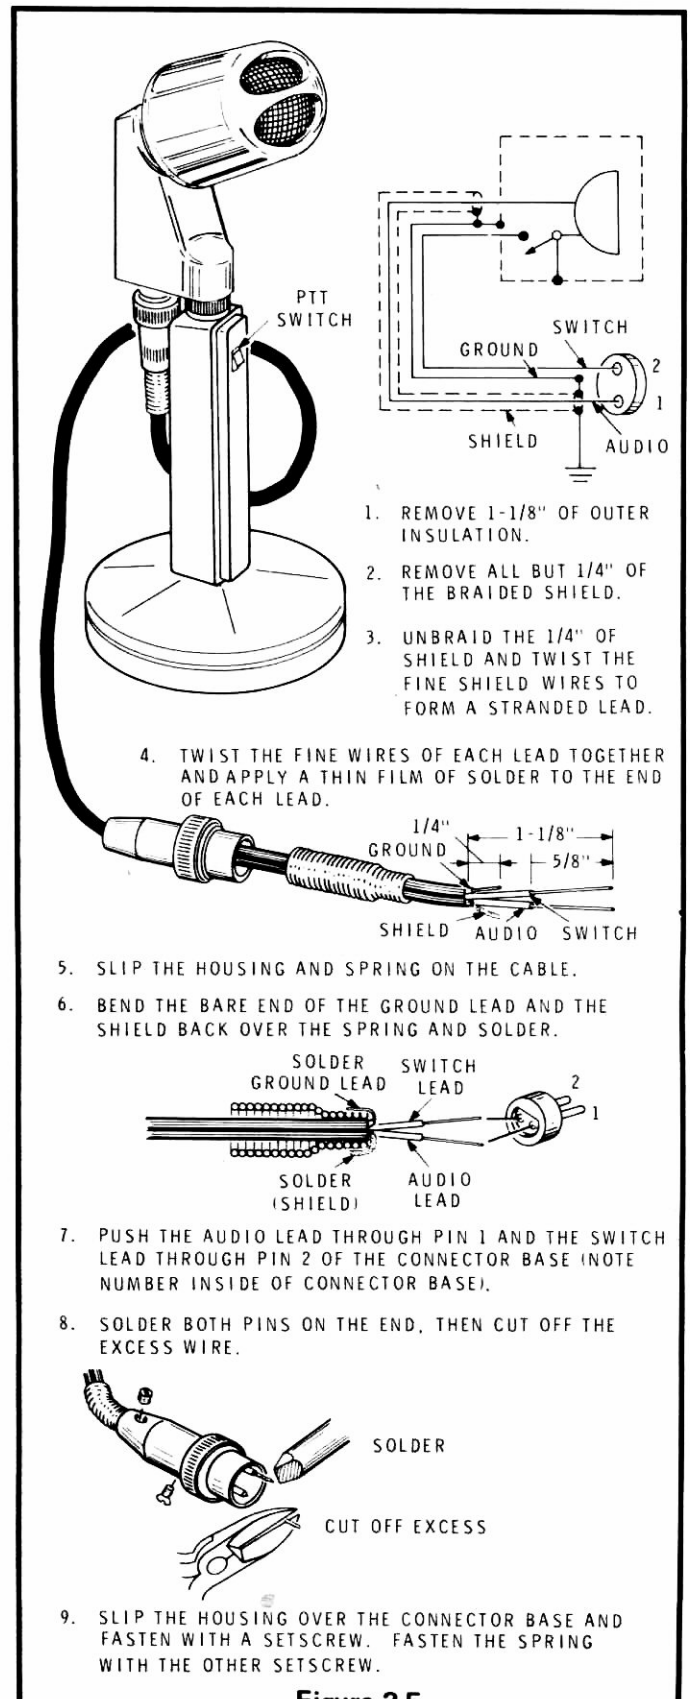

Figure 2-5
- ( ) Perform the numbered steps in Figure 2-5.
If you use a microphone different than the one shown, connect the lead from the microphone element to pin 1 of the panel connector. If the microphone has a PTT switch, connect this lead to pin 2. Shield wires, to complete the ground side of the circuit, should be soldered to the spring as shown in Figure 2-5.